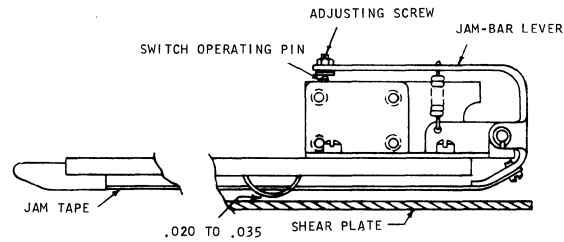

Figure 3-4. Jam Bar
1. A jam bar must be positioned for .020" to .035" clearance between the formed points and the shear plates over the entire length of the card transport and at the junction of the jam bar and jam bar lever (Figure 3-4).